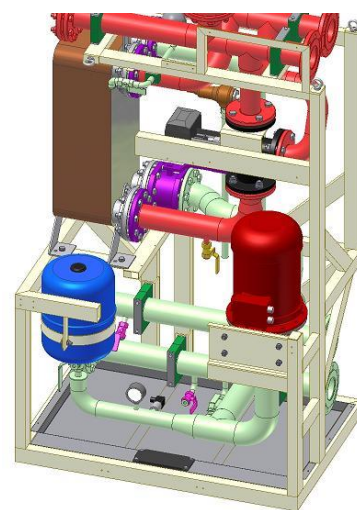

Figure 6.2-2
1. Drain both the primary circuit and the secondary circuit. The secondary circuit is drained through the V231 valve (marked yellow in Figure 6.2-2). The primary circuit is drained through the valves V230 and V232 (marked magenta in Figure 6.2-2).
5. Disconnect the primary and secondary circuit flange connections (marked violet in Figure 6.2-2) from the unit.